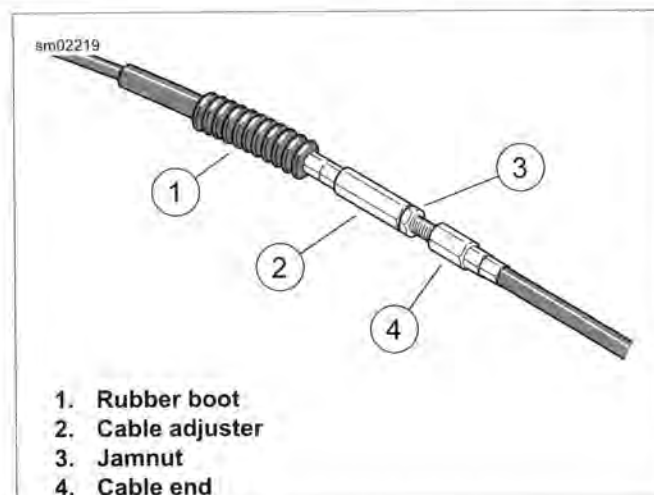
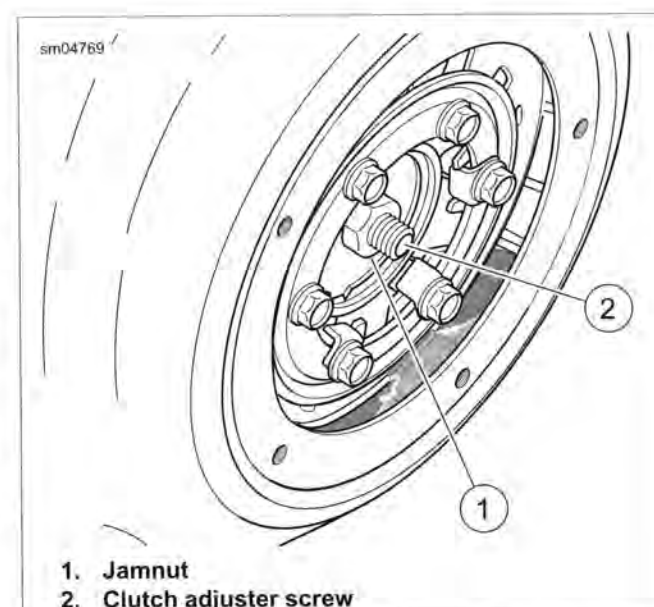
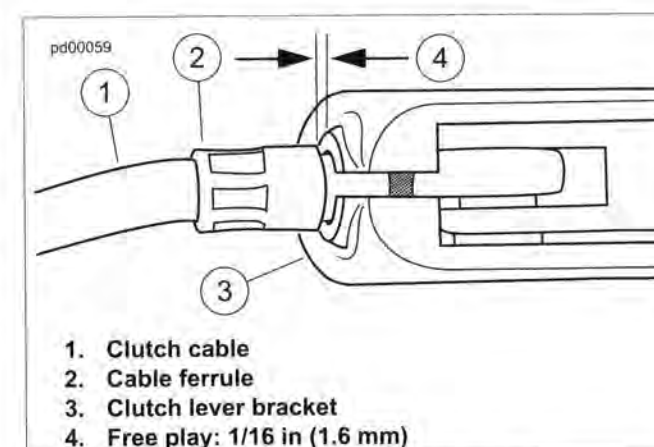

Figure 1-18. Clutch Cable Adjuster
Figure 1-19. Clutch Adjuster Screw
Figure 1-20. Clutch Cable Free Play
- See Figure 1-18. Add freeplay to cable.
- Slide rubber boot (1) off cable adjuster.
- Loosen jamnut (3) and back away from cable adjuster.
- Move adjuster (2) toward jamnut to introduce a large amount of free play at hand lever.
- See Figure 1-19. Loosen jamnut (1) on clutch adjuster screw. Turn adjuster screw (2) inward (clockwise) until lightly seated.
- See Figure 1-18. Check freeplay.
- Turn cable adjuster (2) until slack is eliminated at hand lever.
- See Figure 1-20. Pull clutch cable ferrule (2) away from clutch lever bracket to check free play. Turn cable adjuster as necessary to obtain 1/16 in. (1.6 mm) free play (4).